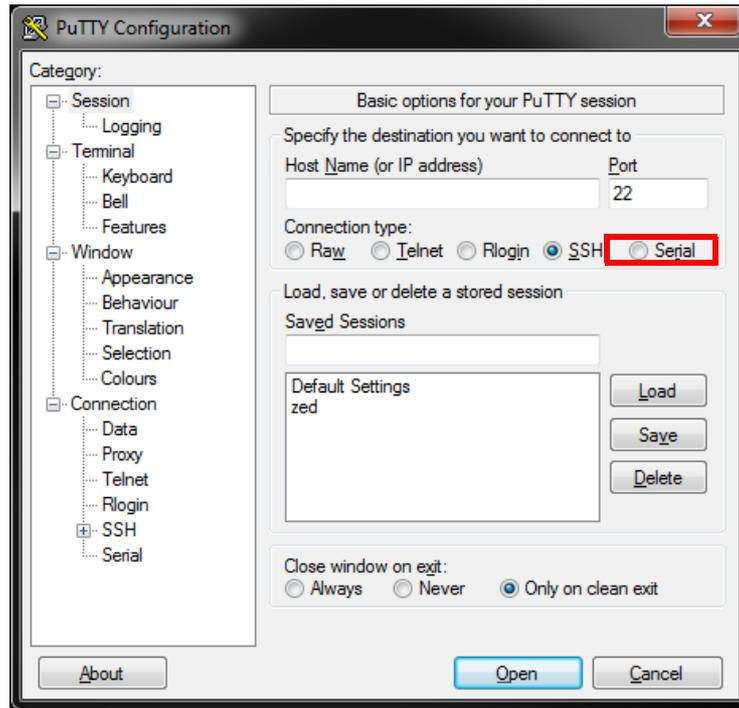
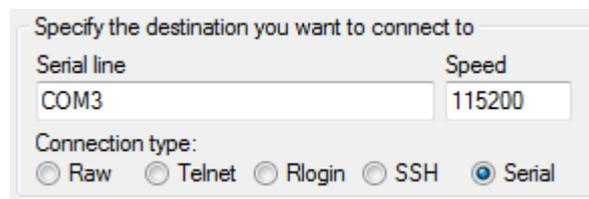

Figure 5.34: PuTTY
Figure 5.35: PuTTY configuration
- (w) *PuTTY Configuration* should open, as shown in Figure 5.34.
- (x) Select **Serial** as *Connection type* (highlighted in Figure 5.34) and configure the settings as specified in Figure 5.35.